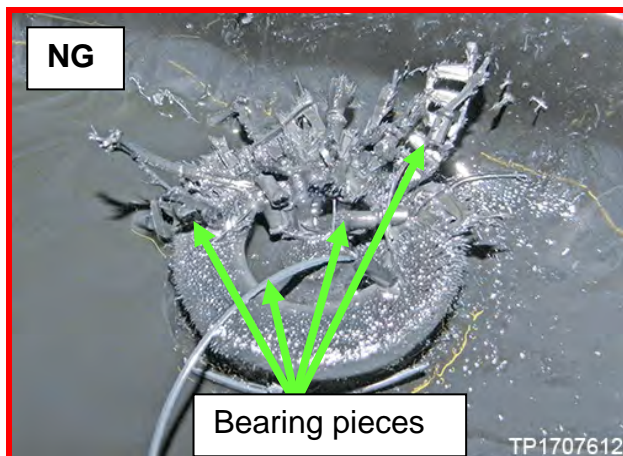

Figure 3B
- Figure 3B is **NG** - Broken parts would include pieces of bearing cages, bearings, clutch material, belt elements, etc.